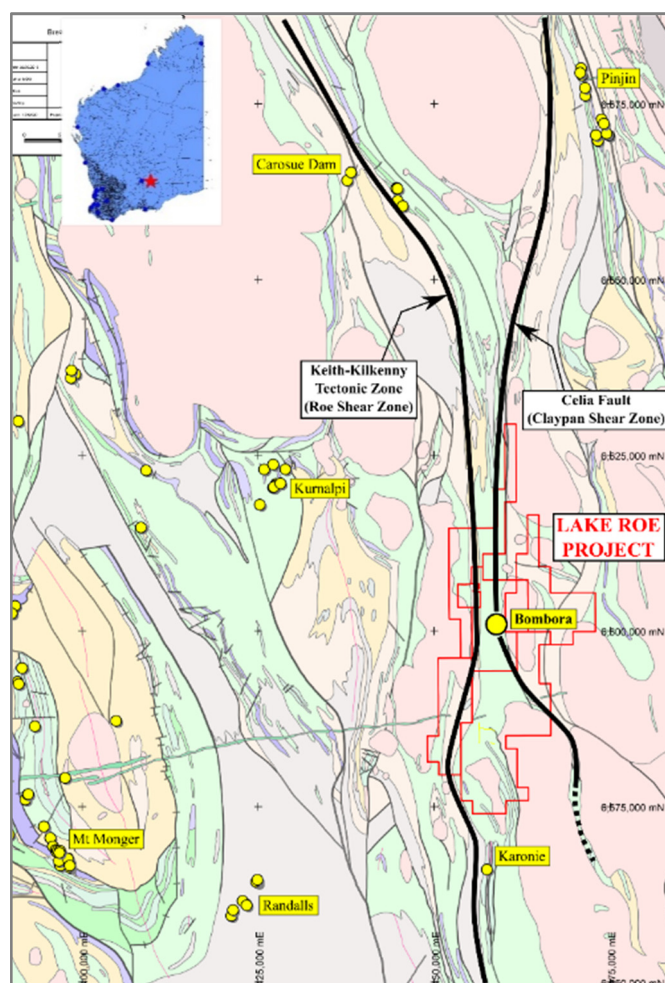
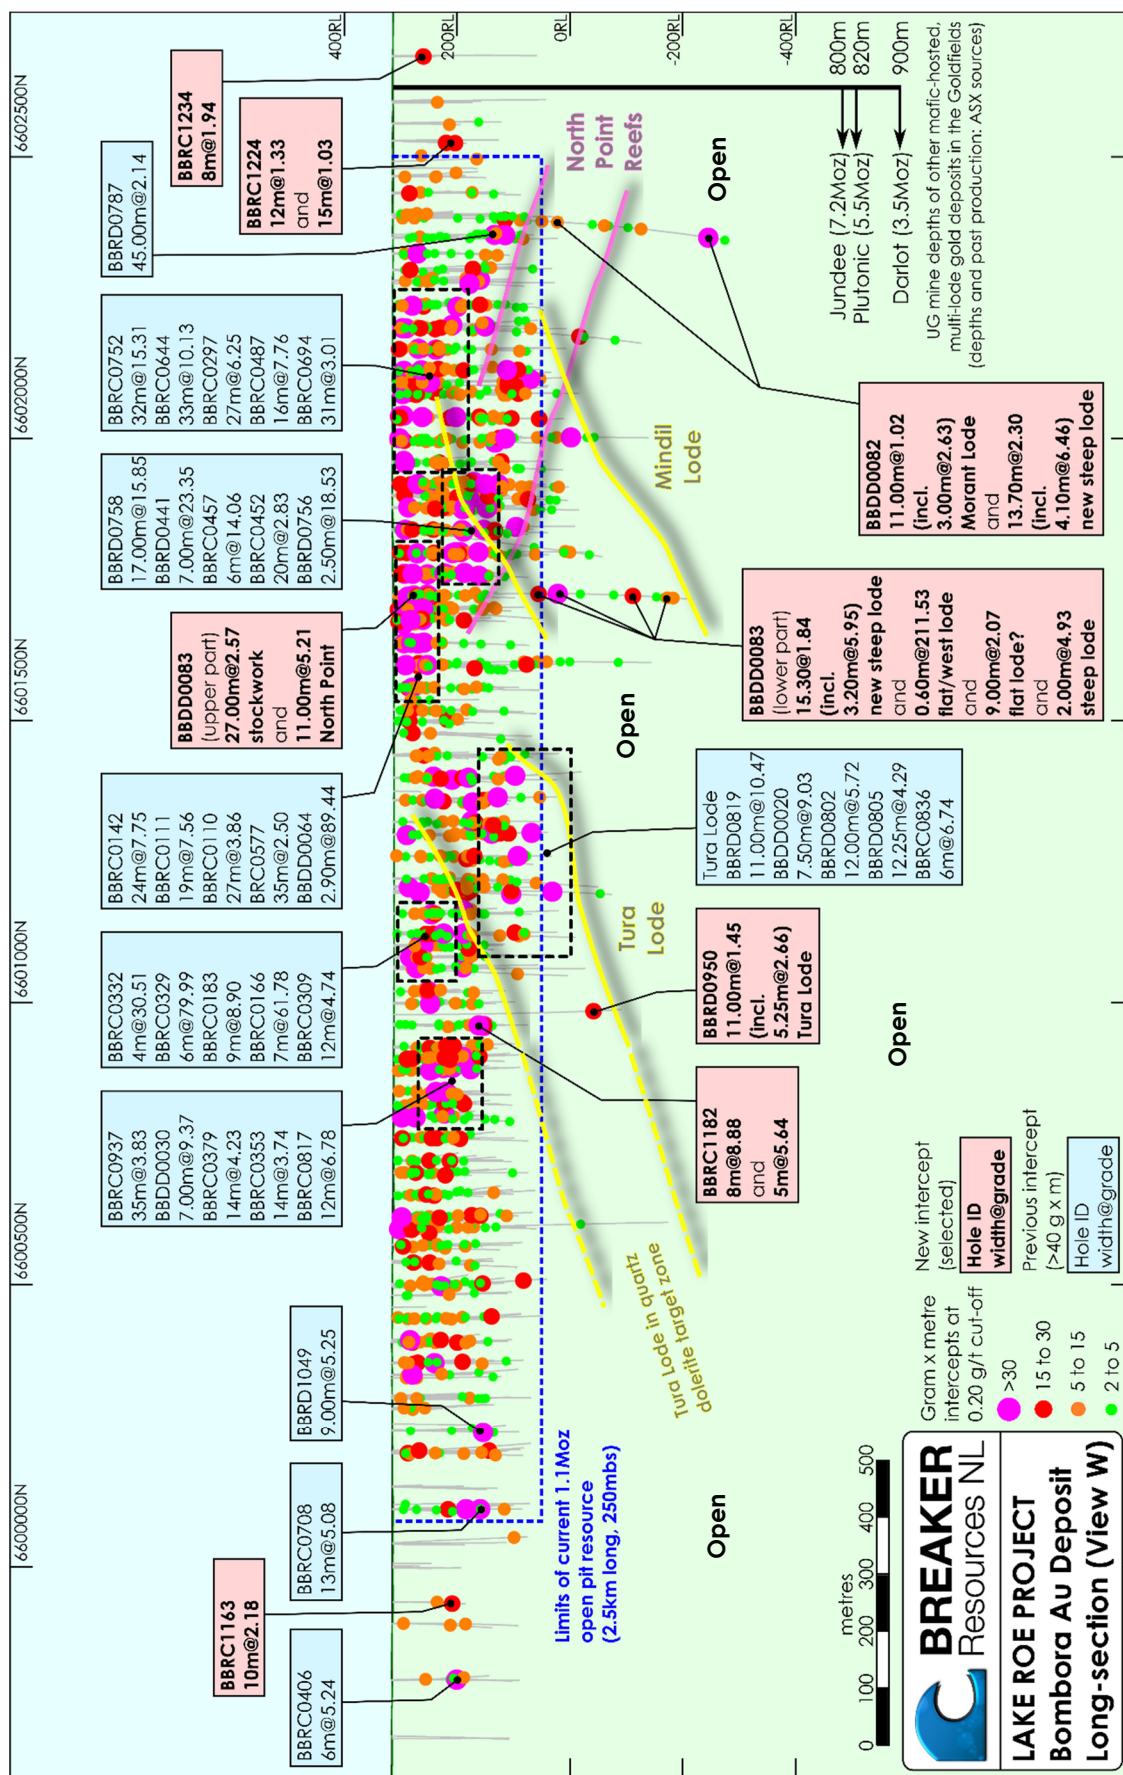

Figure 1: Lake Roe Gold Project Location
Figure 2: Long-section looking west showing selected new and previous drill intersections (all intersections by down-hole length)
The large area (550km2), 100%-owned Lake Roe Project is located 100km east of Kalgoorlie and is situated between two large gold deposits (Figure 1). Access is by bitumen and high-quality gravel road from Kalgoorlie (Figure 1).
The drilling consisted of 87 drill holes comprising two diamond drill holes (1,306m), 79 reverse circulation (**RC**) drill holes (11,402m) and six RC pre-collared diamond drill holes (2,094m). The drill holes are located in plan view on Figure 1 with selected drill hole intersections.
**Figure 1: 21 March 2019 Bombora RC and diamond drill holes with selected intersections colour-coded by average downhole gold over the entire drill hole on aeromagnetic image with interpreted geology (previous RC and diamond drilling as grey dots; AS\$2,000 Whittle open pit shell from ASX Release 18 April 2018 in blue); Note: an average downhole gold grade of 120ppb equates with 12g of gold in a 100m drill hole**
Selected drill hole intersections are shown in plan view on Figure 1, in long-section on Figure 2, and are listed in Table 1 below. At the time of reporting, one metre riffle-split samples were pending for many of the preliminary four metre composite sample results.